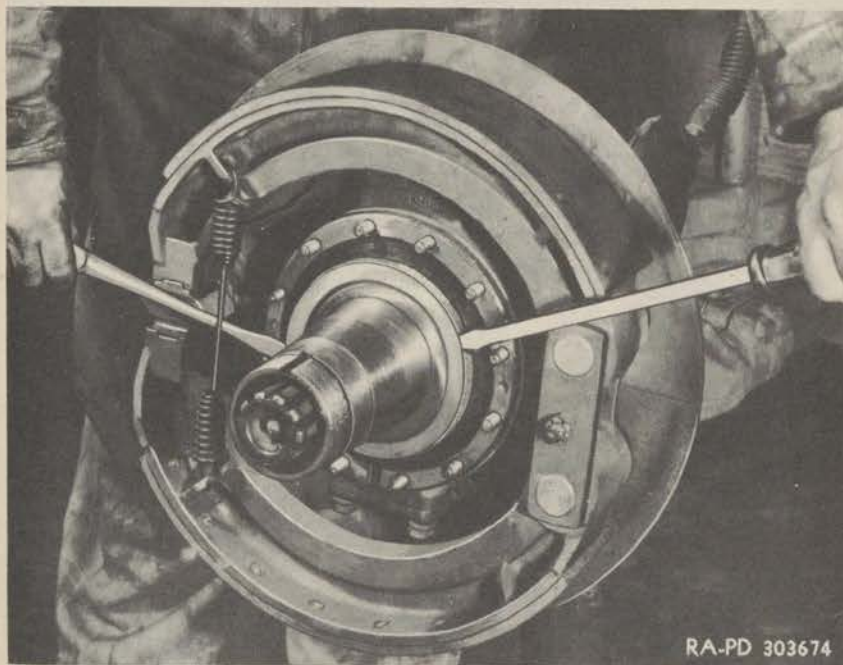

Figure 142—Prying Off Front Wheel Bearing Grease Retainer Outer Ring
(2) **REMOVE GREASE RETAINER.** Using screwdrivers, pry the outer retainer ring away from the felt and remove this part. Then remove the felt from the inner retainer ring (fig. 142).